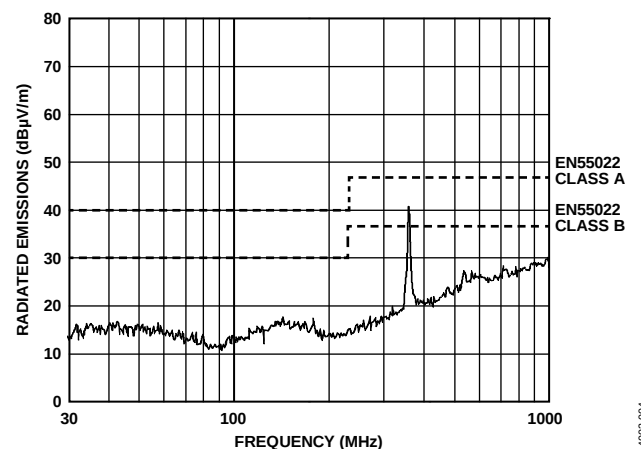
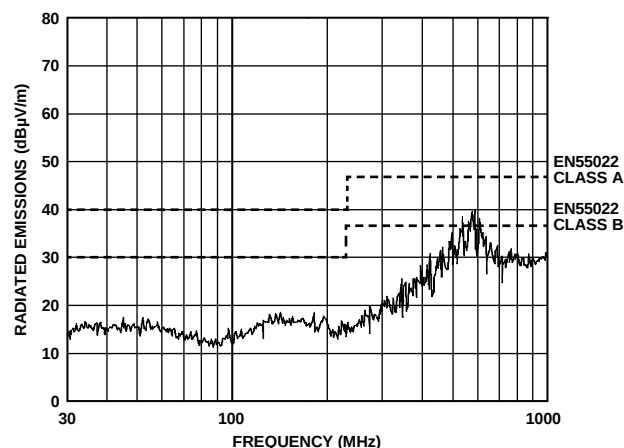

Figure 4. Horizontal Scan from 30 MHz to 1000 MHz
Figure 9. Horizontal Scan from 30 MHz to 1000 MHz (Corresponds to Worst Case for Table 8)
The EVAL-ADM2582EEMIZ and EVAL-ADM2587EEMIZ evaluation boards are configured and tested with 3.3 V  $V_{CC}$  or 5.0 V  $V_{CC}$  power supplied to the ADM2582E and ADM2587E devices, with the power supplied from the ADP667ARZ regulator output to  $V_{CC}$  (Pin 8). The ADP667ARZ regulator input is supplied from a standard 9 V battery. All EN55022 radiated emissions testing is performed with 9 V batteries. Testing is performed at 500 kbps clock (ADM2587E) or 16 Mbps clock (ADM2582E), with the clock supplied by the on-board oscillator. The ADM2587E/ADM2582E transceiver is connected in full-duplex mode and the bus pins are loaded with a 54  $\Omega$  termination resistor (maximum bus loading). Measurements are carried out in an anechoic chamber at 10 m from 30 MHz to 2 GHz. Figure 4 to Figure 9 show the results of the worst case horizontal scans and Table 3 to Table 8 show the tabulated quasi-peak (QP) results.